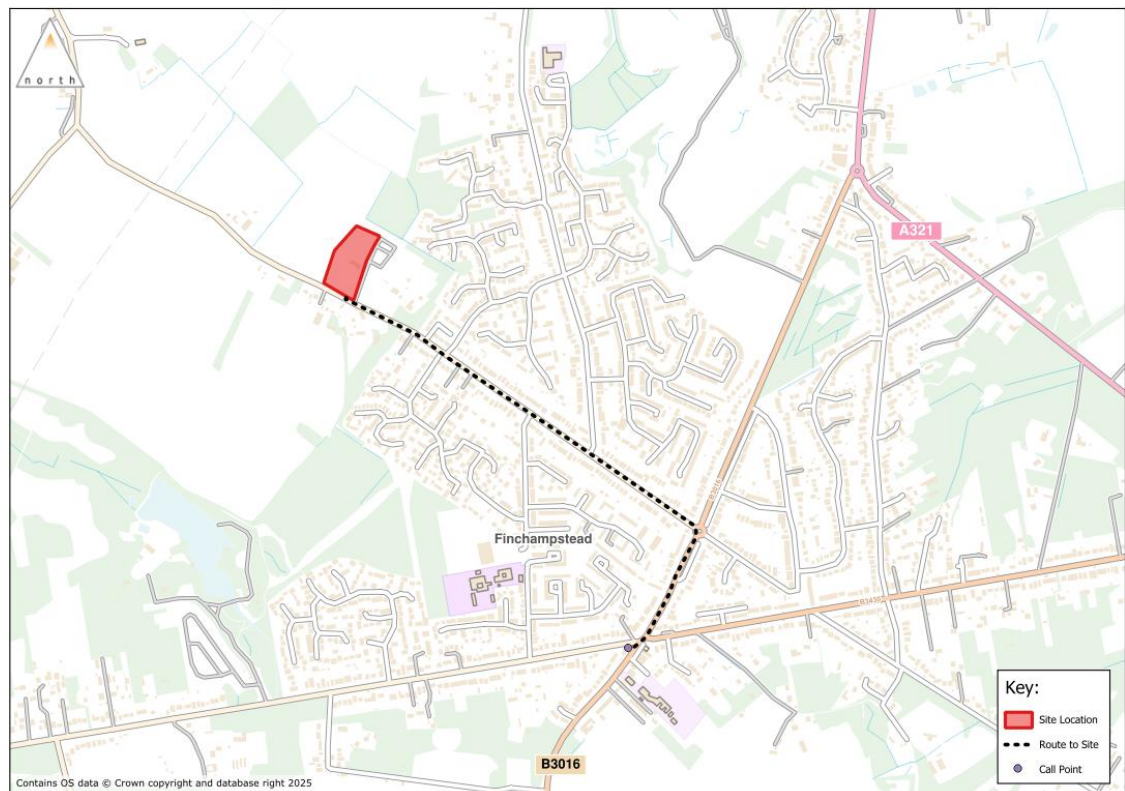

Figure 4.1 - Vehicle Route to Site
4.14 All vehicles will be required to telephone ahead to the full time Site Manager. A plan showing the route construction vehicles will take from the service station to the Application Site can be seen below in figure 4.1.
- 5.8 All vehicles will be guided into the designated unloading area by a banksman to ensure that vehicles are parked appropriately. All vehicles will be required to telephone ahead to the full time Site Manager and will use the same route as all other vehicles as illustrated within Figure 4.1.